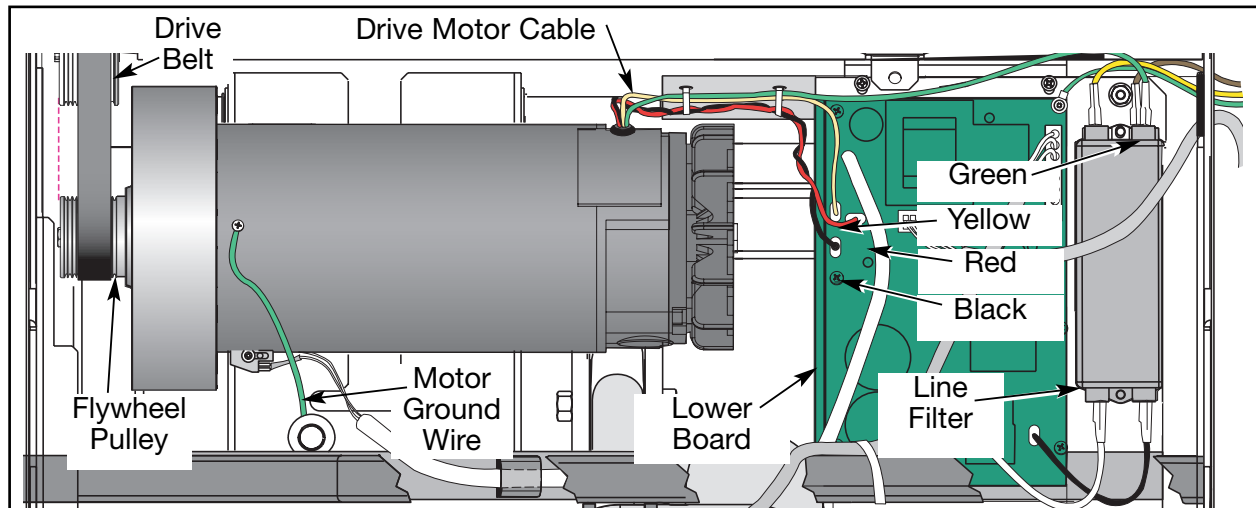

Figure 13
- B. Slip the drive belt around the flywheel pulley and off the motor. See Figure 13.
- A. Using a 1/2" socket wrench, remove the screw, split washer, flat washer and motor ground wire from the motor saddle. See Figure 13.
- C. Disconnect the motor cable from the lower board and line filter. **NOTE:** You will disconnect four wires (red, black, yellow and green). See Figure 13.
- A. Connect the motor cable to the lower board and line filter as shown in Figure 13 (red to A1, black to A2, yellow to BW and green to the line filter). **NOTE:** For internationally installed treadmills only, the green cable goes on the ground stud tab.